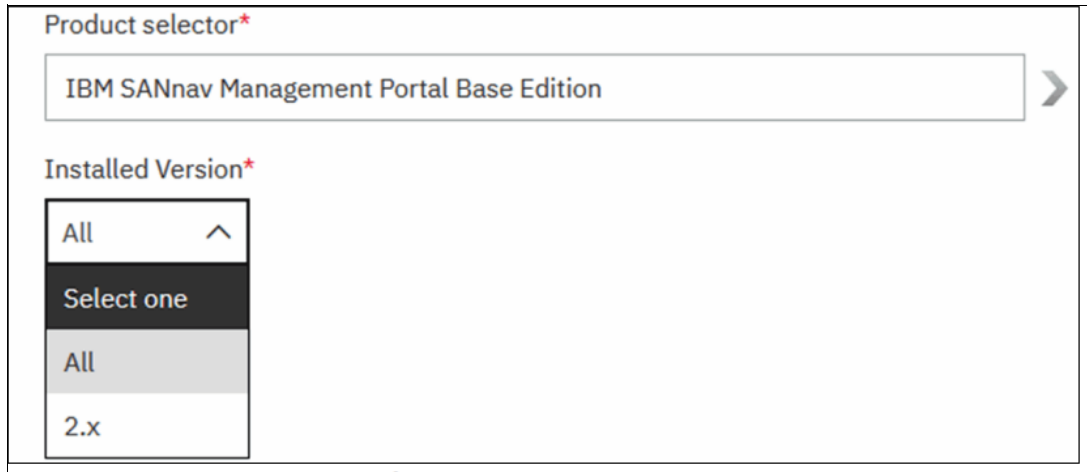

Figure 9-7 Select the installed version (in case of update) or All for a new installation
3. Select the installed version (in case of update) or **All** for a new installation. See Figure 9-7 on page 149.